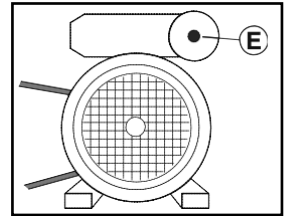

Fig. 4
OVERLOAD CUT OUT (FIG. 4)
SINGLE-PHASE compressors are equipped with an overload cut out (E) (Fig. 4) which operates as a safety device to protect the motor. When the motor overheats because of any fault arisen, the overload cut out automatically releases and cuts off power, thus preventing motor from being damaged. Wait a few minutes (about 5) before resetting the device, then start working again. If you restart the compressor and the overload cut out releases again, turn the main switch to position "0" OFF, unplug the equipment, and contact the place of purchase.